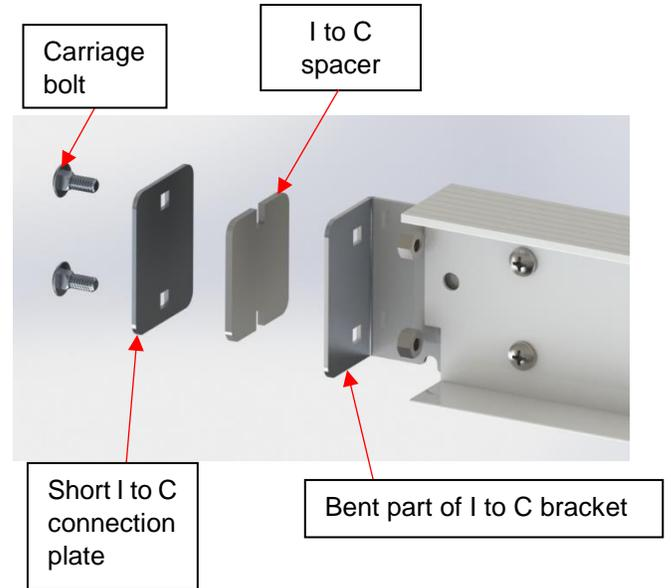

Figure 48
4) For models ranging from **12' to 15'**, you will need to install **one** I-beam with **two short** I to C connection plates per I-beam. (Figure 48)
- ◆ Use 1/4-20 x 5/8" carriage bolts, 1/4-20 nuts and 7/16" (11 mm) socket wrench and spanner. Insert the I to C spacer in between the I to C connection plate and the bracket. The carriage bolts and nuts can now be properly tightened. (Figure 48).
5) For models ranging from **16' to 20'** you will need to install **three** I-beams with **two short** I to C connection plates per I-beam (Figure 48).
- ◆ Use 1/4-20 x 5/8" carriage bolts, 1/4-20 nuts and 7/16" (11 mm) socket wrench and spanner. Ensure these bolts and nuts are not overly tight so they don't bend the the I to C-bracket and the I to C long connection plate (Figure 48).